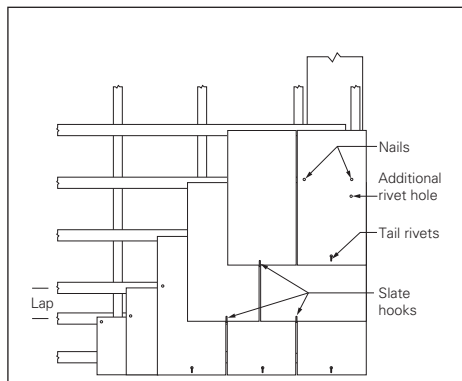

Fig. 13
- 7 The full size slate fitted at the verge on the course above requires 2 no. 4mm nail holes drilled on the batten line as well as 2 no. 4mm disc rivet holes to accommodate the tail rivet for the slate and half slate above (Fig. 13).